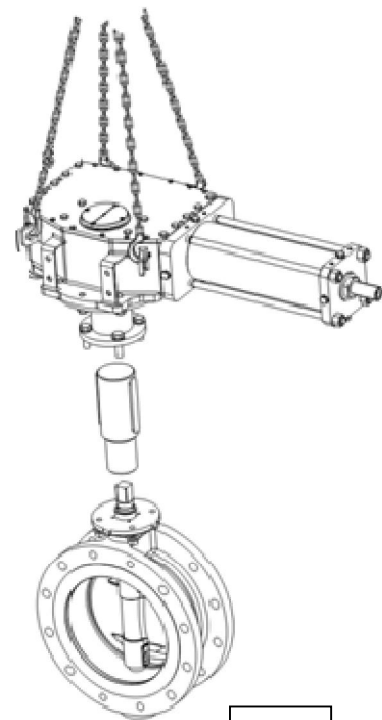

Fig.3
- When the insert bush has entered the actuator drive sleeve, check the holes / pin of the valve flange meet the actuator holes and pin, otherwise rotate the mounting bracket to obtain a right assembling. *Fig. 3*
<p>Warning</p> 	<p>Before starting the disassembly operations it is mandatory to disconnect the hydraulic power and to exhaust the cylinder and any other pressure retaining component mounted on the actuator.</p> <p>Before removing the screws between actuator and valve or adaptor flange or mounting bracket, the actuator should be connected with appropriate lifting means. Lift the actuator as shown in Fig.3. The lifting points are appropriate for handling the actuator alone and not for the valve + actuator assembly.</p> <p>During the disassembling take care that the mounting coupling block is fix on the valve stem to avoid any dangerous situation.</p>